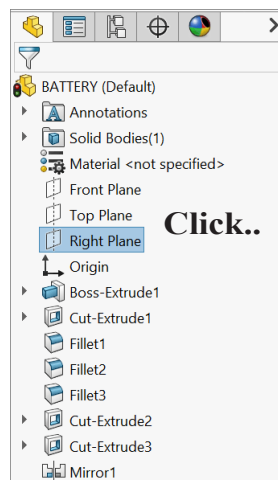

Fig. 60
Step 8. Click **Right Plane**  in the Feature Manager to select plane, **Fig. 60**.